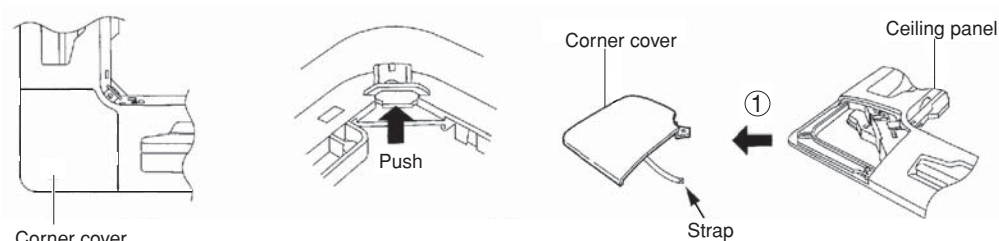

Fig. 3-18
- c) With the air-intake grille opened, remove the grille hinge from the ceiling panel by sliding it in the direction shown by the arrow ②. (Fig. 3-18)
- a) Slide the corner cover to the direction shown by the arrow ① to remove the corner cover. (Fig. 3-18).